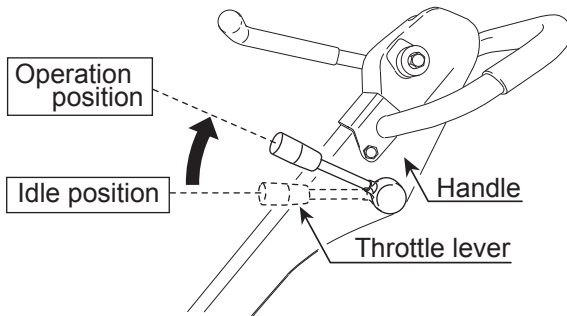

Figure 19. Throttle Lever (Operation Position)
1. Once the engine has started, move the engine throttle lever quickly to the **operation** position (Figure 19).